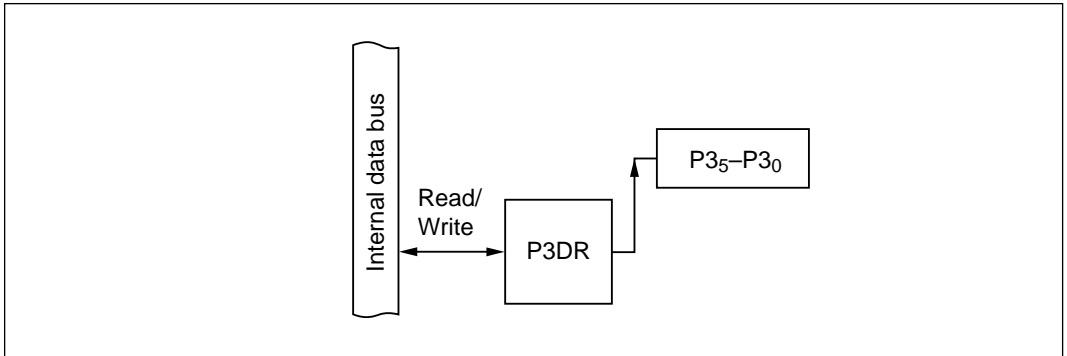

Figure 9-18 Output Port (Modes 1 to 7)
(2) Output Port (Modes 1 to 7): Figure 9-18 shows a block diagram illustrating the general-purpose output function. Table 9-12 indicates register read/write data. The value written in the port 3 data register (P3DR) is output at the pin. When read, P3DR returns the value written in P3DR.